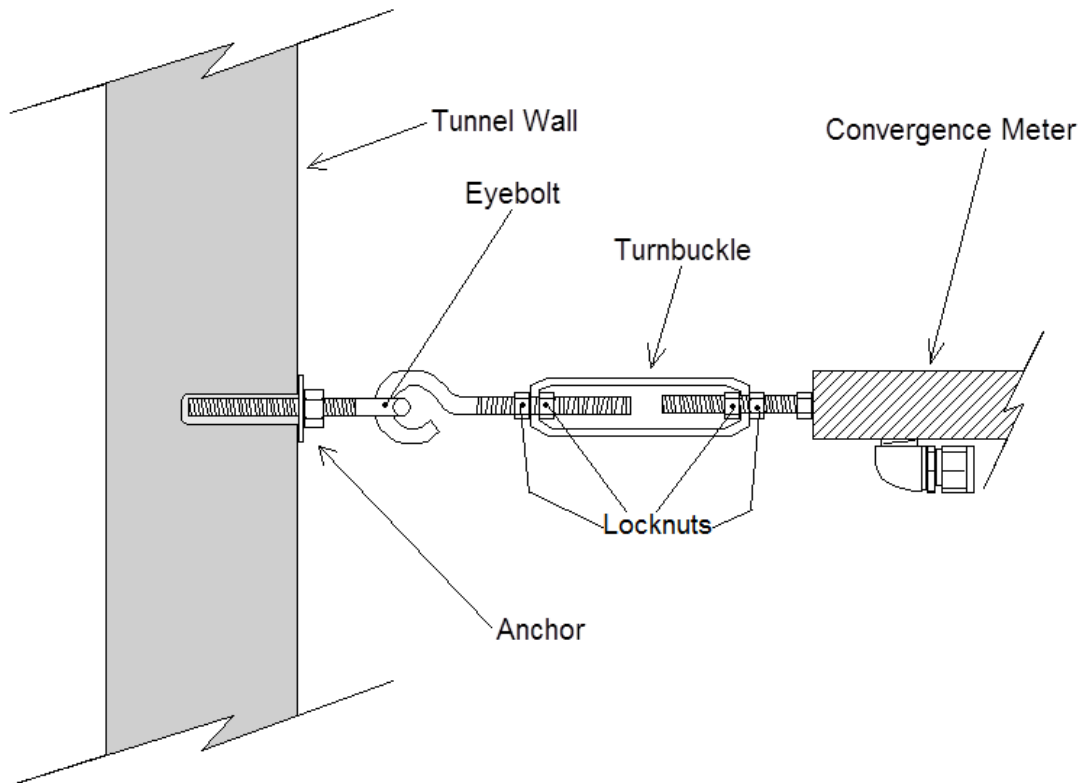

Figure 4 - Convergence Meter Installation Detail - Turnbuckle End
- 11) Tighten the locknuts on the turnbuckle. (See Figure 4 below.)